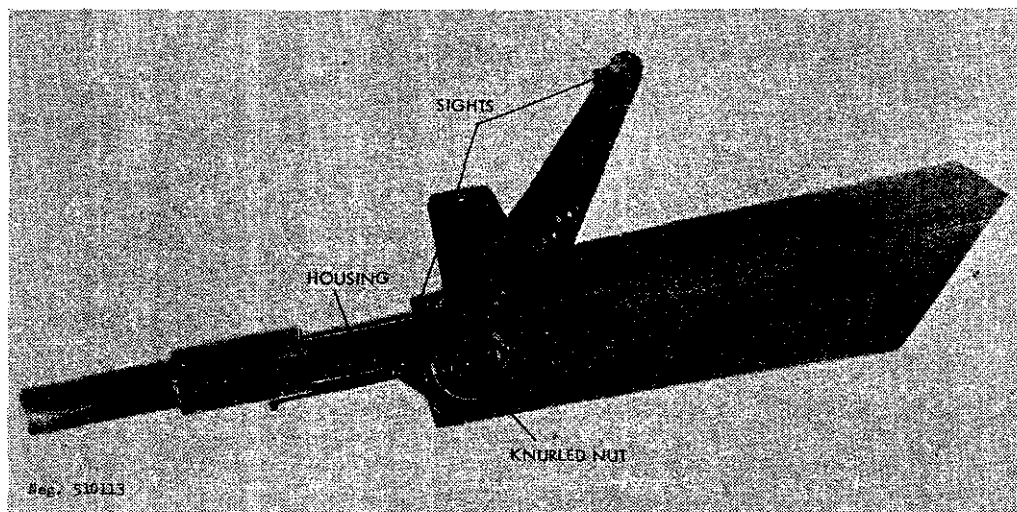

Figure 114. M.A.S. 49 grenade launcher.
magazine-fed arm, equipped with an integral, adjustable grenade launcher (fig 114). All model 49's are equipped with a telescopic sight base on the left side of the receiver.
(1) If the rifle is a Model 49, rotate the knurled nut (fig 114) until the range, in tens of meters (to 260 meters), is aligned with the housing (fig 114). Slip a grenade fully onto the launcher and align the grenade sights with the target. Rotate the safety upward and press the trigger.